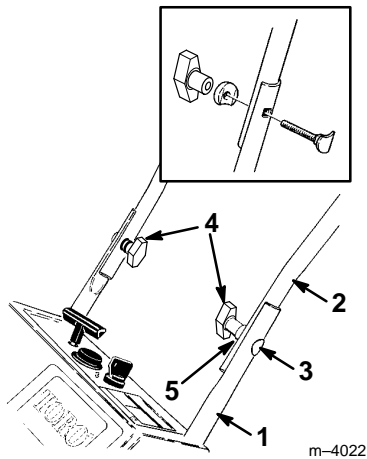

Figure 3
1. Position the ends of the upper handle on the inside of the lower handles and align the holes (Fig. 3). Ensure that the handle is positioned so that the control bar is on the upper side of the handle.
2. Secure the upper handle to the lower handle using oval head bolts, curved washers, and knobs (Fig. 3).
Note: Ensure that you properly align the oval head bolts and the curved washers (See inset in Fig. 3).